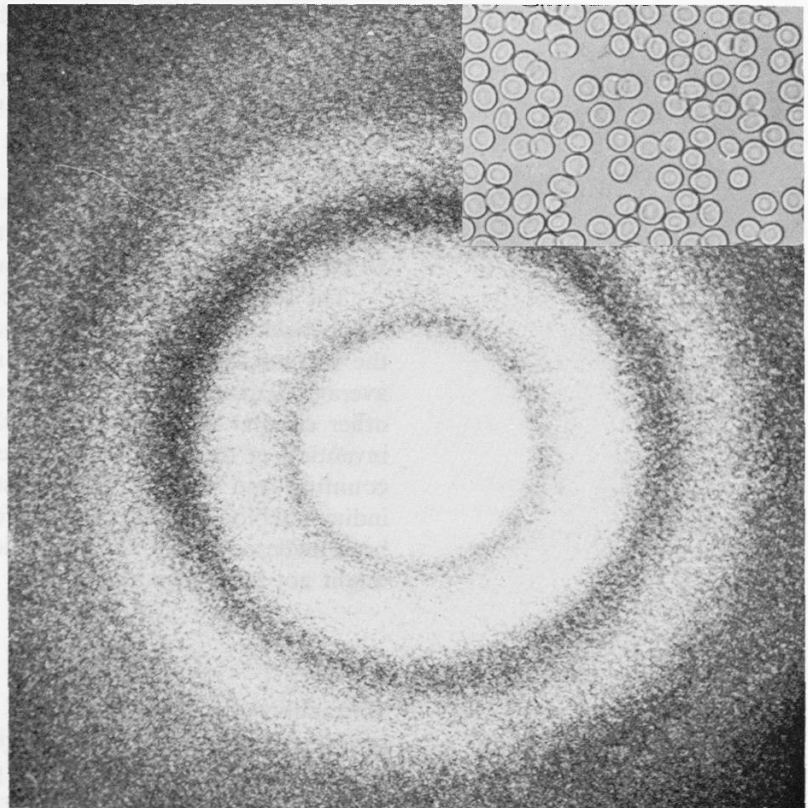

Figure J37
The fringe pattern shown in figure J37 was produced on a screen by a parallel beam of light from a helium–neon gas laser passing through a
blood smear on a microscope slide. The great range in light intensity makes it difficult to show on a photograph all the orders observable by eye. The granular appearance of the fringe pattern is characteristic of laser light reflected from a surface. A very small quantity of blood was required and the only difficulty in producing a suitable smear was to spread the blood thinly enough to prevent the red cells overlapping (see inset, figure J37). Some adjustment of the position of the smear in the beam was required to find the area of the smear giving the most distinct fringes.
- g** If figure J37 is approximately life size, what is the minimum uncertainty in the measurement of fringe diameter expressed as a percentage?